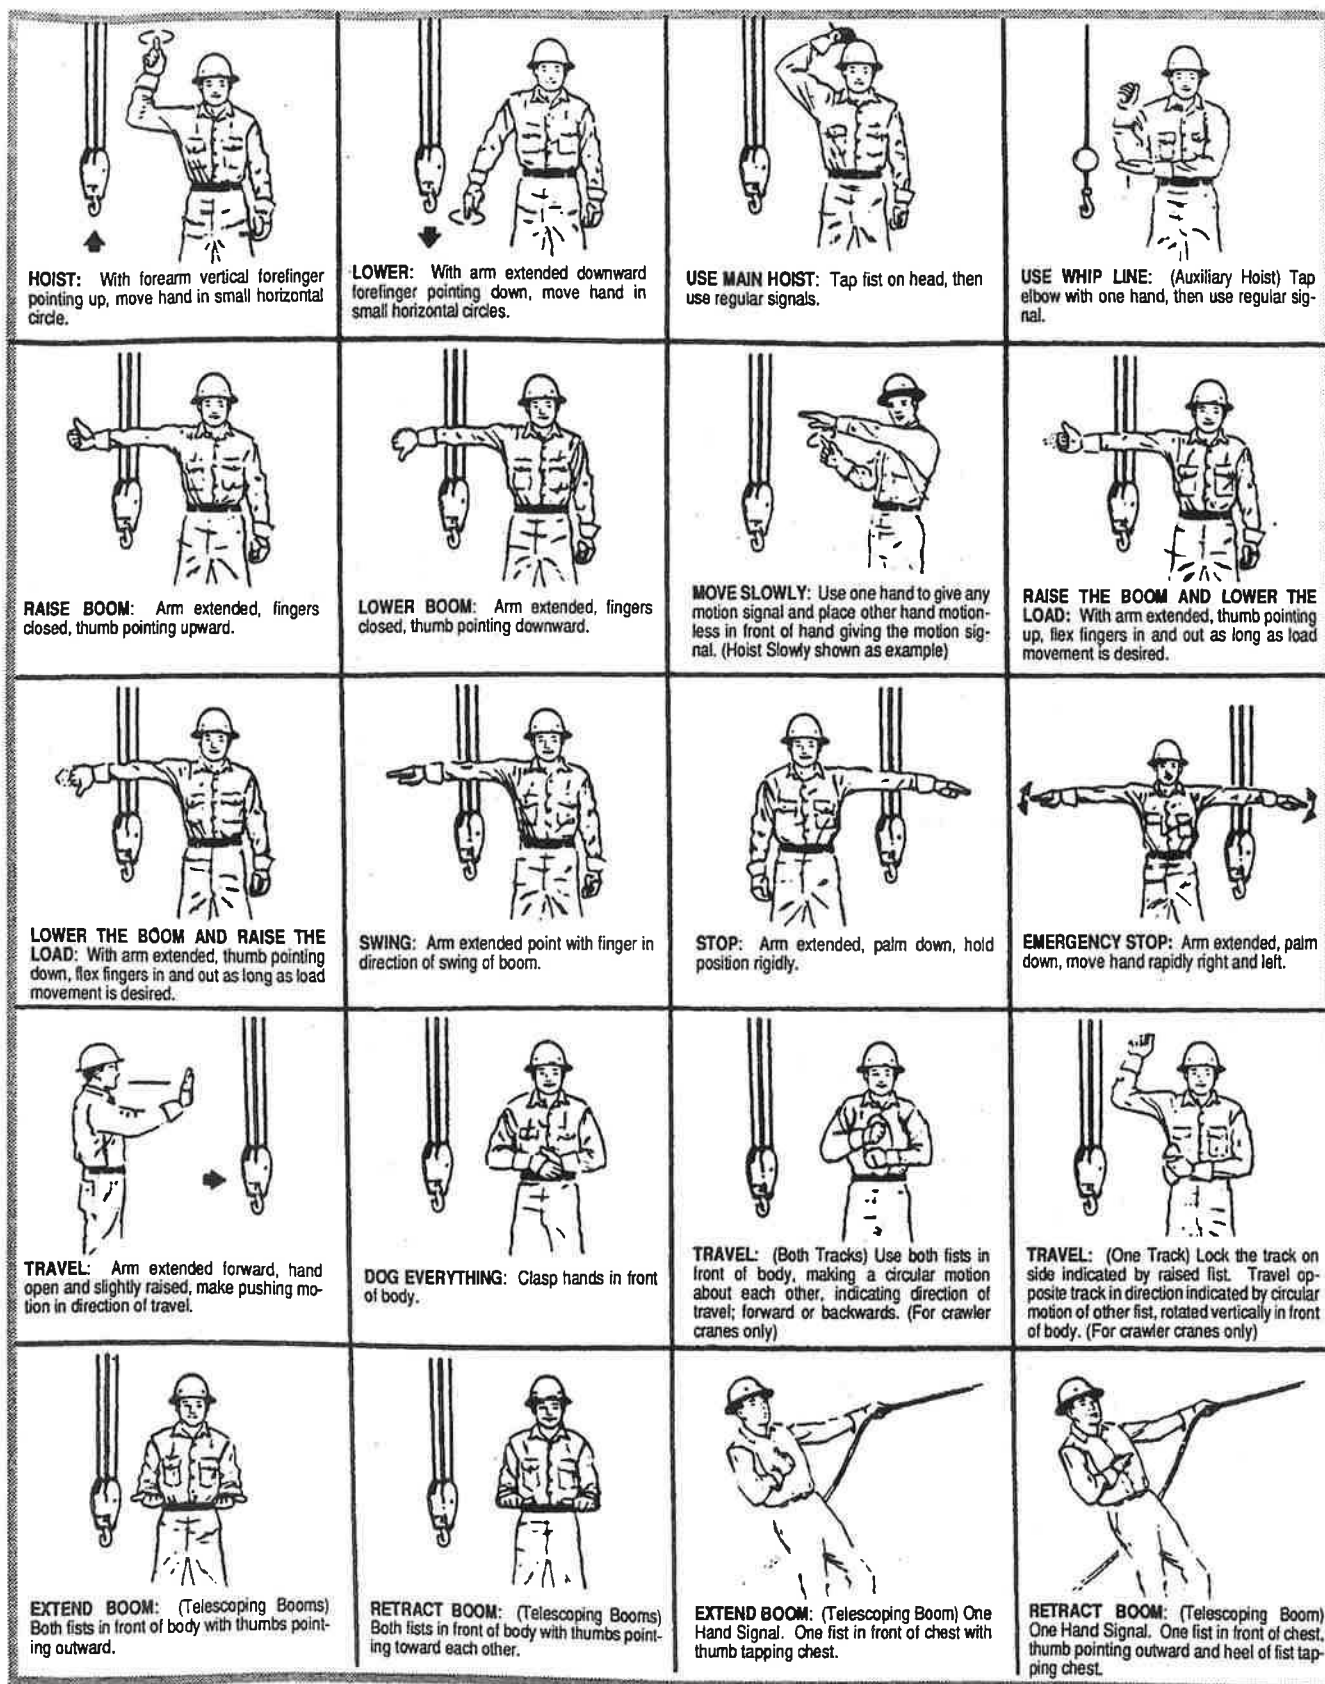

Figure 1-2. Hand Signals – Standard Crane Operation.
- KNOW ALL STANDARD HAND SIGNALS. (SEE FIGURES 1-2 AND 1-3.)